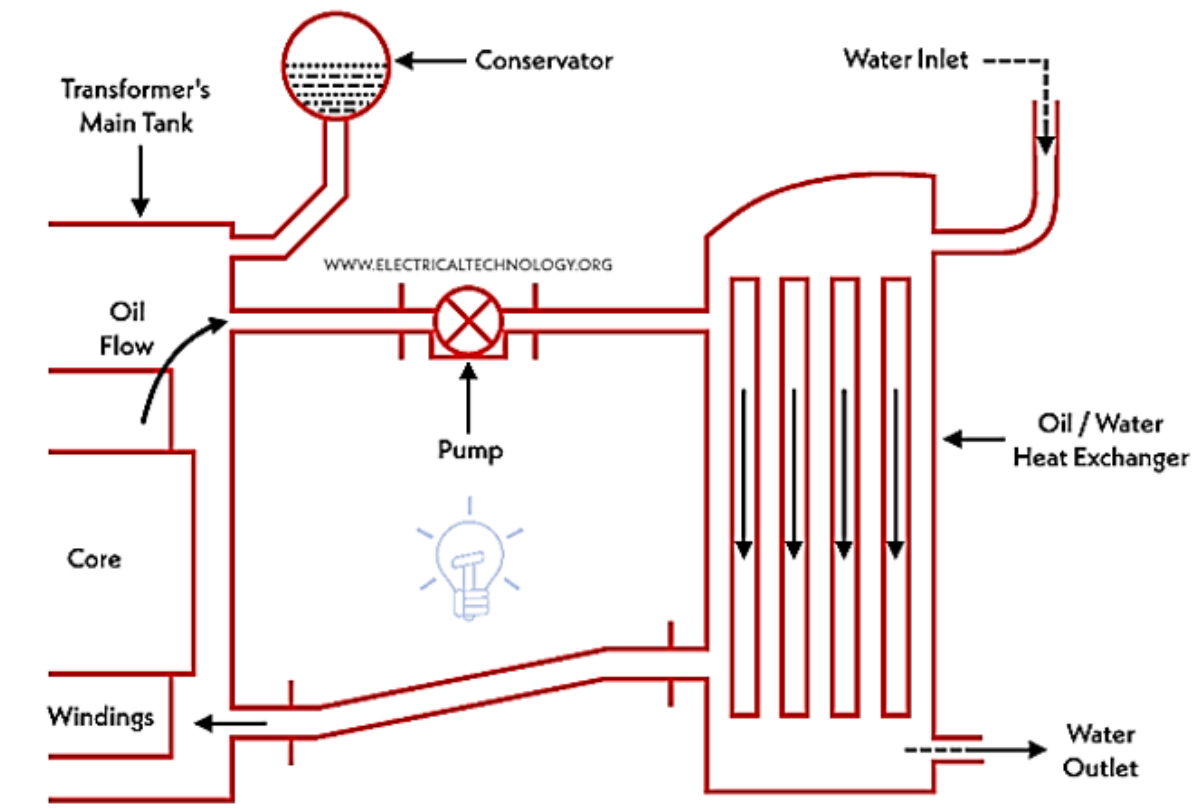

Figure 2.9: Oil Forced Water Forced Cooling of Transformer
- 5. Oil Forced Water Forced (OFWF):** In this method, both oil and water are passed through a heat exchanger with the assistance of pumps. The transformer core and windings are immersed in the oil inside the tank. The temperature of the oil rises as it absorbs the heat from the core and windings. The hot oil is circulated between the tank and the heat exchanger by means of a pump. Water is also pumped through the heat exchanger which cools the hot oil that comes into contact with it. The level and pressure of the oil are always kept higher than that of water so that if any leakage occurs in the system the oil mixes with the water, but water does not get mixed up with the oil. A typical OFWF method is shown in Figure 2.9. This method is applied on transformers of several hundreds of MVA. It can also be employed where banks of transformers are installed.